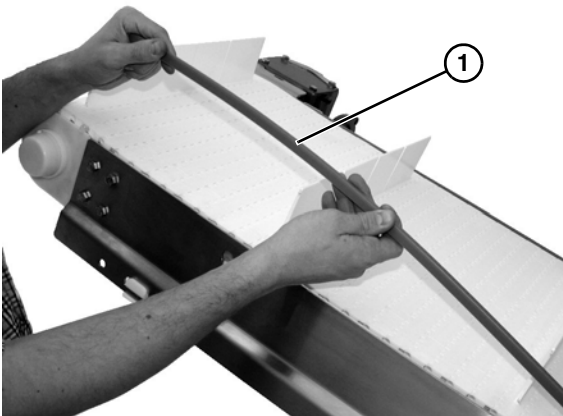

Figure 26
1. Remove worn bar cap (**Figure 26, item 1**) by lifting off of conveyor side rail.